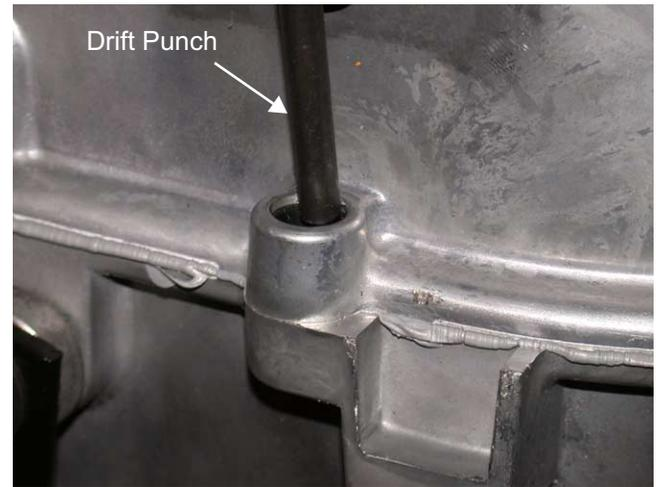

Figure 8.18
- 8.18. Using a 1/8 inch punch and a hammer, drive the two dowel bushings out of the transmission housings. See Figure 8.18.